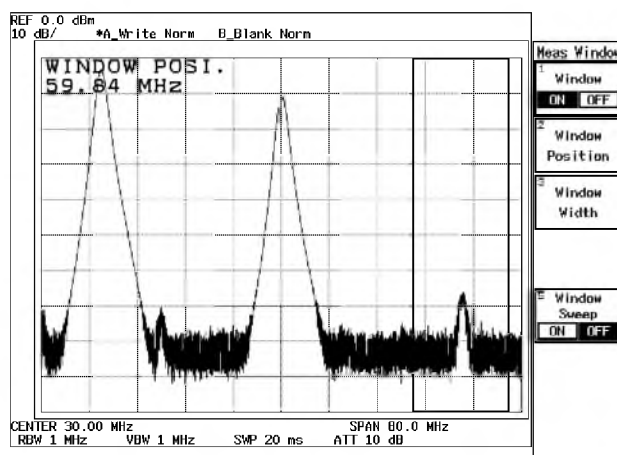

Figure 2-31 The Measuring Window
13. Press *Window position* and move the measuring window by turning the data knob until the right-hand peak is in the center of the measuring window (See Figure 2-31).